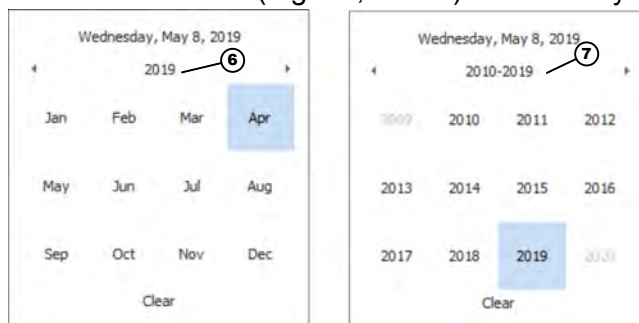

Fig. 16: Selection of month and year
Selecting the function in Fig. 15, item 4 displays a month selection window (January to December) (Fig. 16).
When you select the function (Fig. 16, item 6), you can choose between different years using the buttons ◀ and ▶.
Select the function (Fig. 16, item 7) to select a year up until 2099.